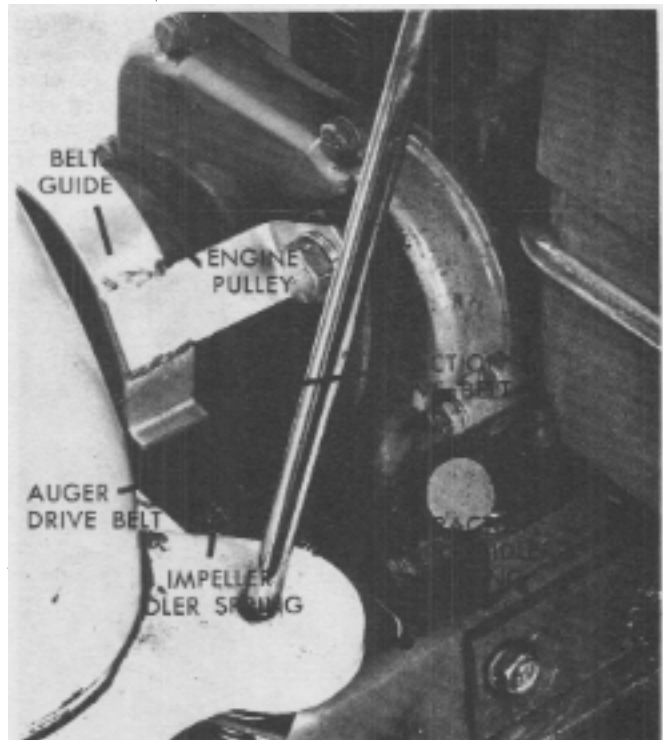

Fig. 4
2. Remove belt guide (Fig. 4).
3. Remove impeller idler spring (Fig. 4).
4. Remove auger belt from engine pulley (Fig. 4).
2. Remove traction drive idler spring (Fig. 4).
3. Remove old belt and replace with new one (Fig. 4).